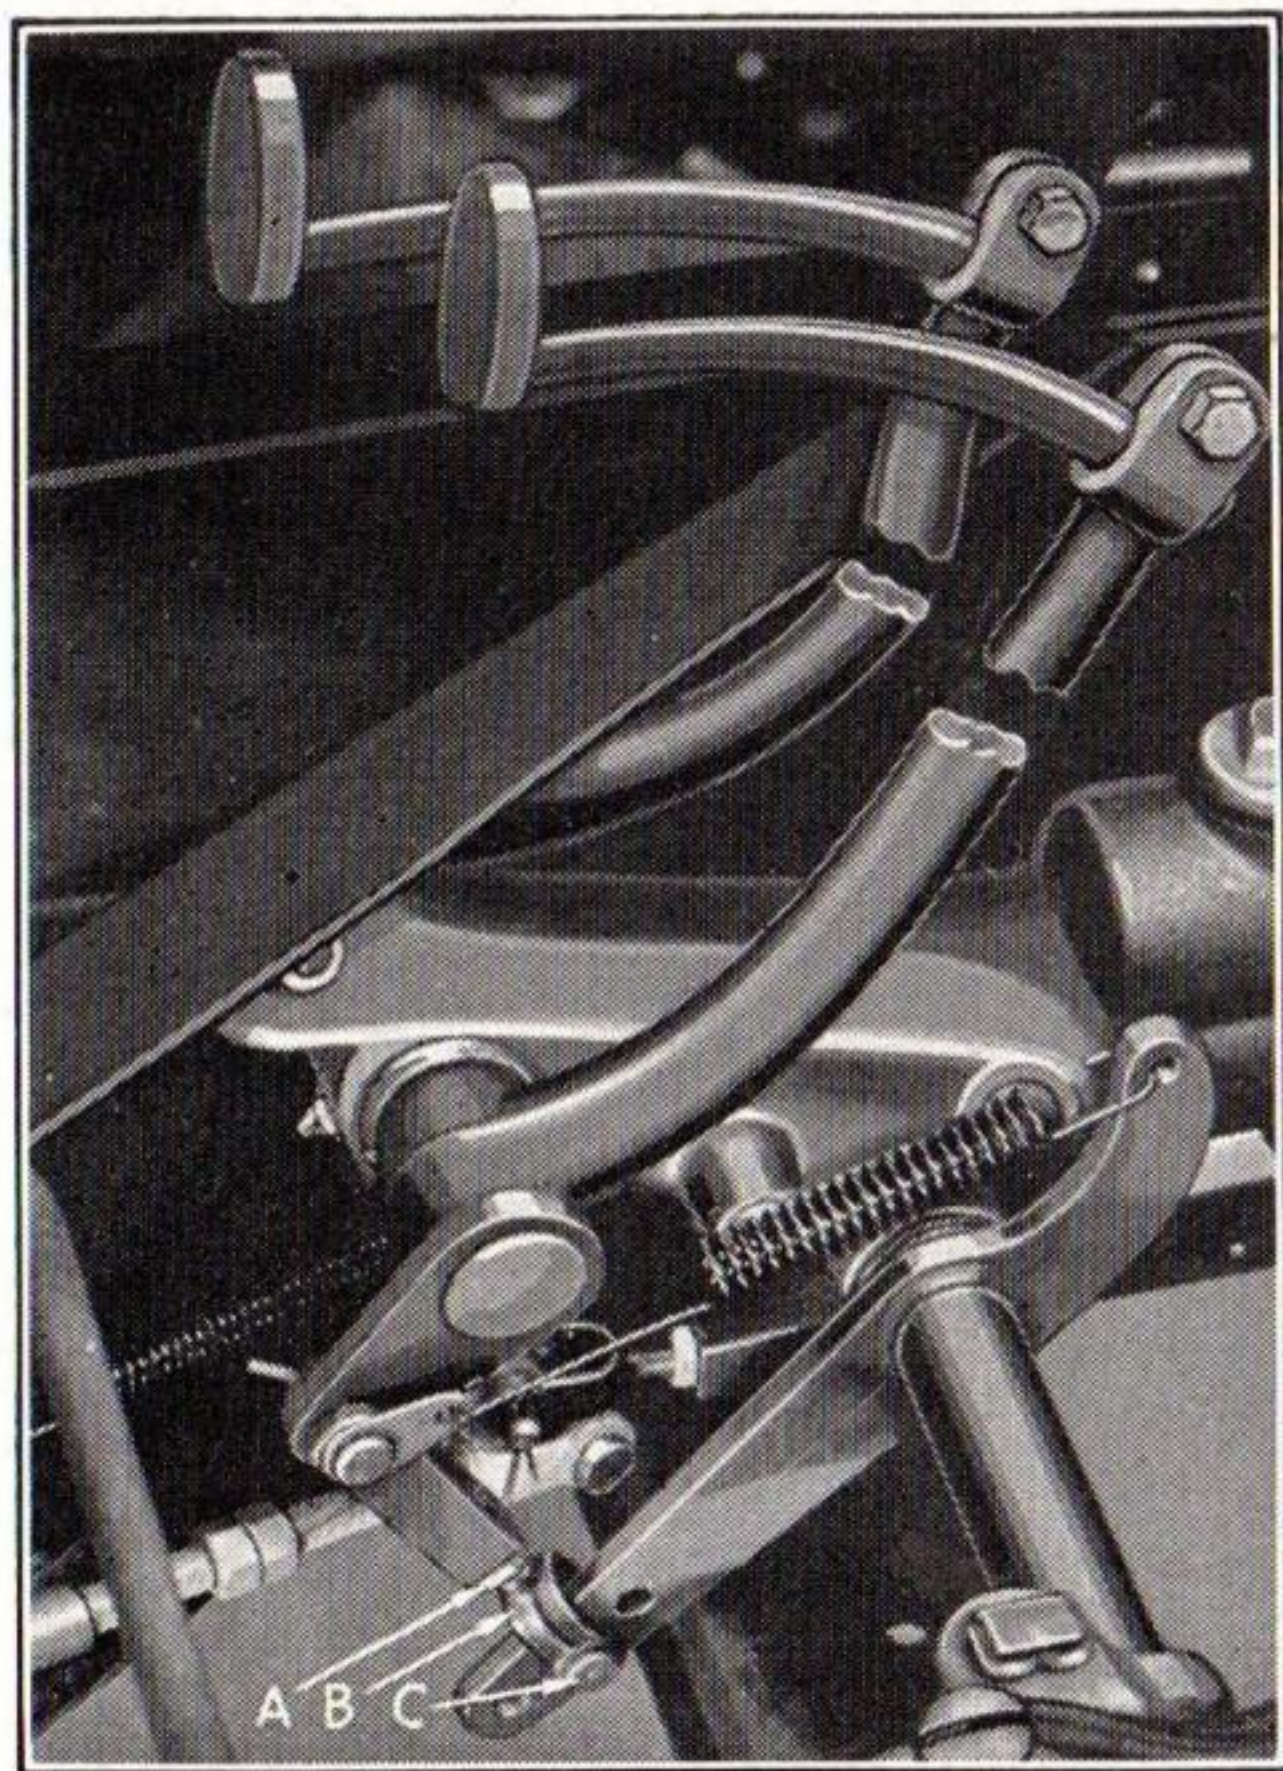
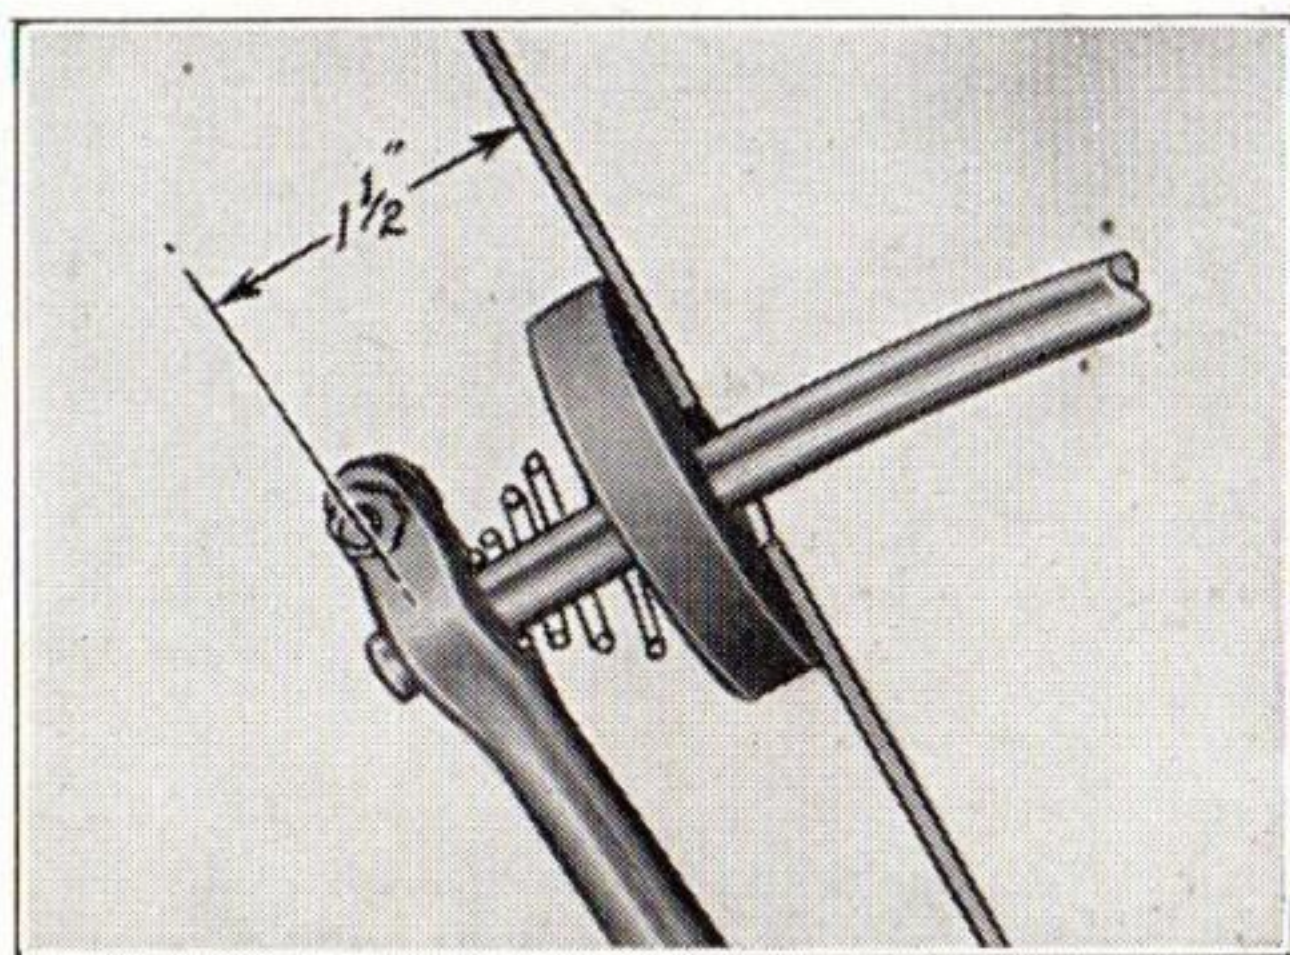

Figure 13
Figure 14
The clutch is self-adjusting; however, it is necessary to adjust the clutch pedal rod to prevent the pedal from "riding" the floor board. To adjust, loosen lock nut (A), Figure 13, remove clevis pin (C), and turn yoke (B) to shorten or lengthen the rod, as necessary, so that the pedal shank can be held in a position one and one-half inches from the floor board when the clutch is engaged, Figure 14. Replace clevis pin (C) and cotter pin. Tighten lock nut (A). The pedal clearance should be checked frequently, as a lack of clearance will cause clutch slippage.
A grease fitting is provided for lubrication of the pedal shaft bushings, Figure 13. This point should be lubricated every 1,000 miles with a viscous chassis lubricant.